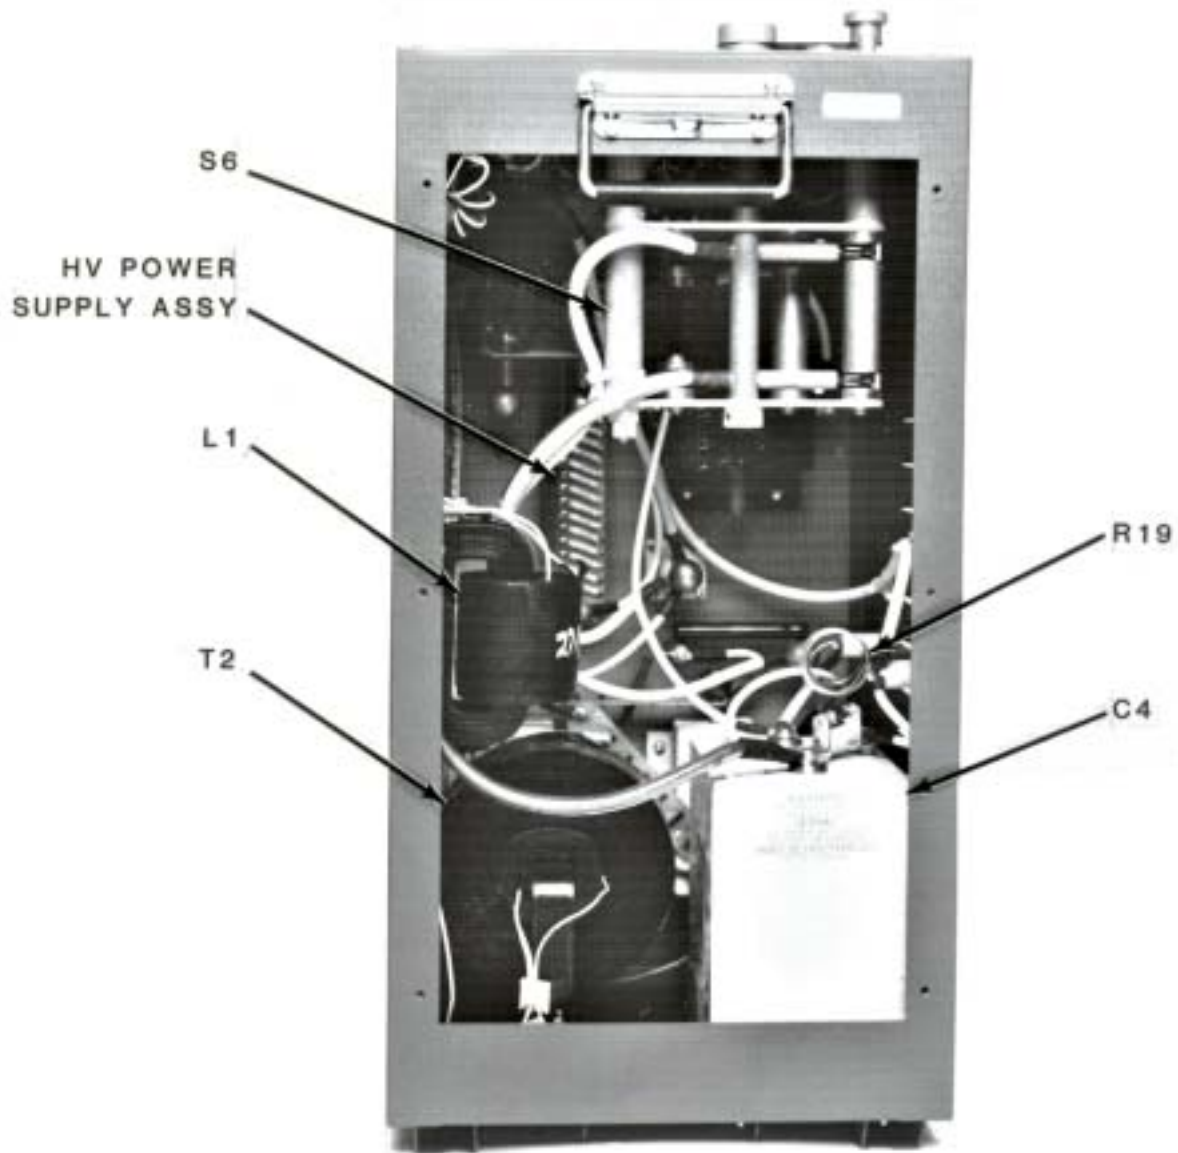

Figure 5: Chassis Interior View
- a. Remove the impulse switch from its position inside the chassis (see Fig. 5) by disconnecting all leads from the switch, then removing the four mounting screws located on the back plate of the switch.